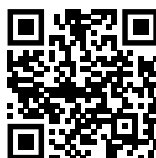

Fig. 116
- Aprire la Liebherr SmartMonitoring Dashboard. (vedere Fig. 116)